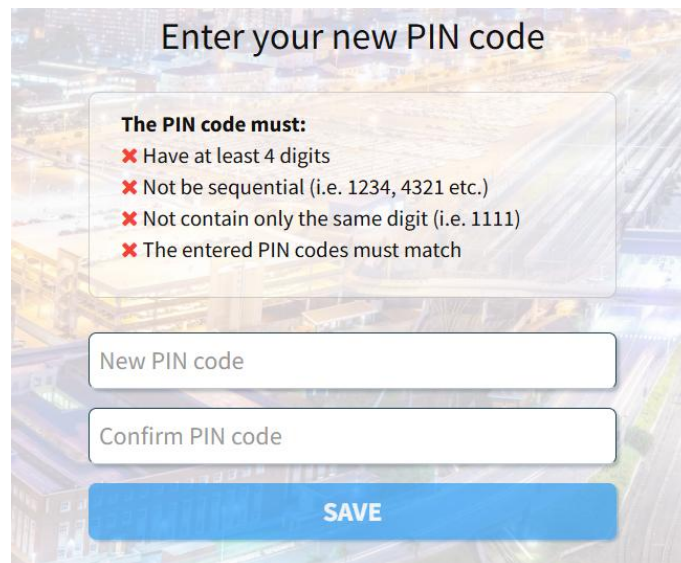

Figure 29 Enter PIN code
1. Enter a new PIN code following the 'PIN code rules'. (see Figure 29).